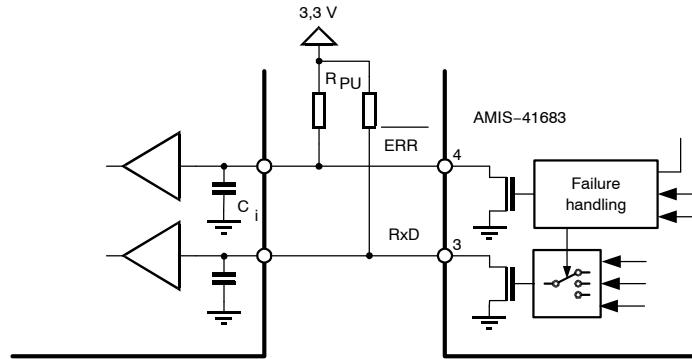

Figure 1. Pullup Resistor to Interface with True 3.3 V Microcontrollers
- A too high resistance value will create extra delay when charging the equivalent input capacitance  $C_i$  (see Figure 1).
Two types of VCC supply topologies can be recognized. For 5 V microcontrollers, in most cases, a common VCC power supply is used for both the microcontroller and the AMIS-41682. (See Figure 1). In case of a 3.3 V microcontroller a separate VCC supply is needed for the